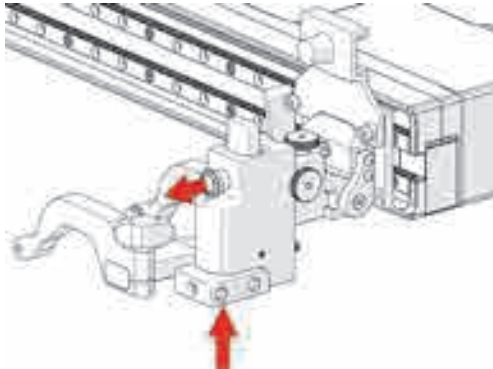

Figure 4-84 Press up and pull latch
1. Gently lift the heavy duty probe holder and simultaneously pull the latch to unlock the probe holder (see Figure 4-84 on page 155).